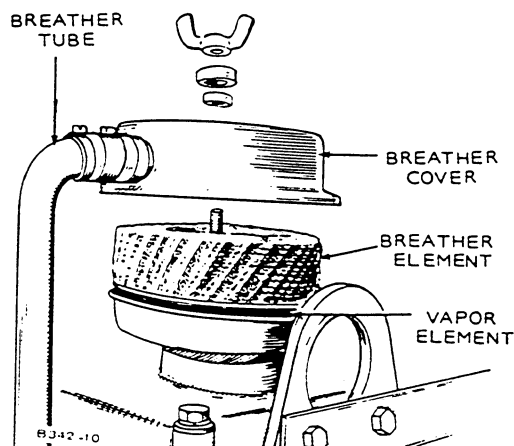

FIGURE 7. CRANKCASE BREATHER FILTER
1. Remove wing nut, flat washer and rubber washer holding cover, lift cover and swing away from filter assembly (see Figure 7).